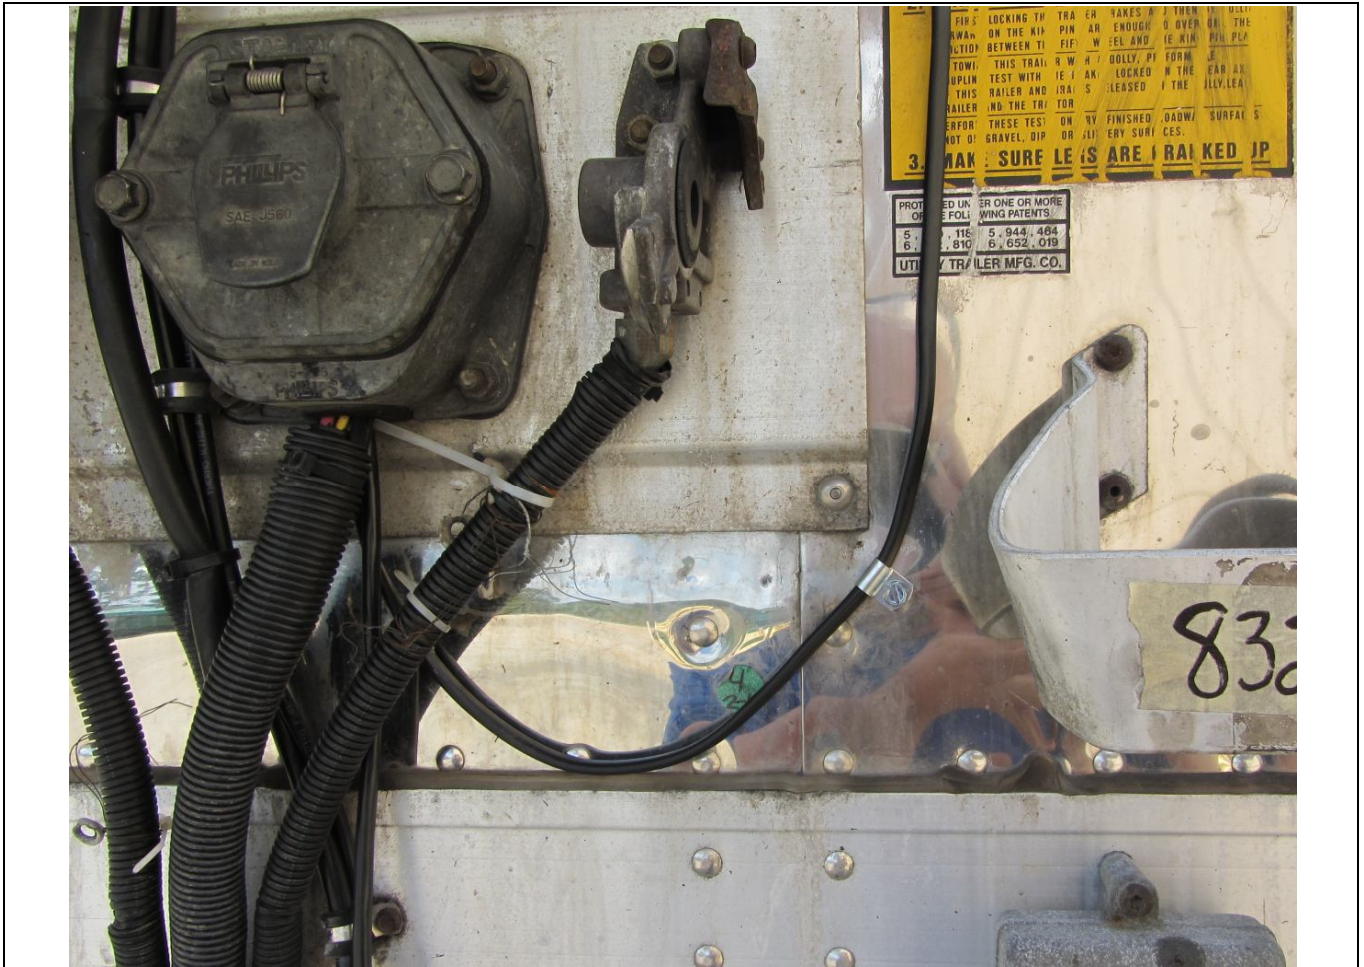

Figure 33
! IMPORTANT: Make sure that as you are installing the p-clamps you run the wire with a drip loop in the bottom of cable below the 7 pin connector box. This keeps water from running down the cable from the indicator light into the electrical box. See Figure 33
- Use tie wraps to attach 3 wire cable and wire cable from the light indicator to the airlines leading out of the 7 pin connector box. See Figure 33